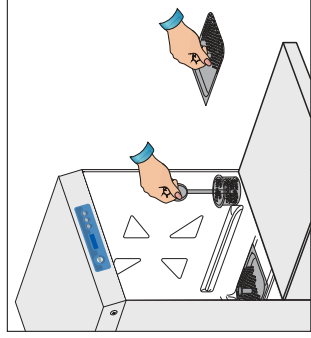

Fig. 1
1. Check if the pump suction filter is properly inserted in its seat on the wash tank bottom (Fig.1). This filter must be cleaned every 20 wash cycles or whenever necessary. ***Do not use the appliance without the filters.**
Put the surface filters in place (Fig.1), shut the dishwasher door, turn the water valve open and turn the main power switch on.